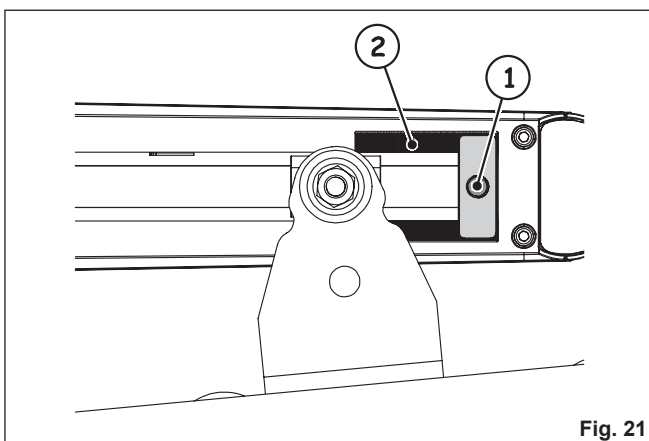

Fig. 21
3. Loosen the securing screw, Figure 21 Ref. 1. The screw does not need to be completely removed.
⚠ *The mechanical stop is coupled to a toothed sector, Figure 21 Ref. 2.*